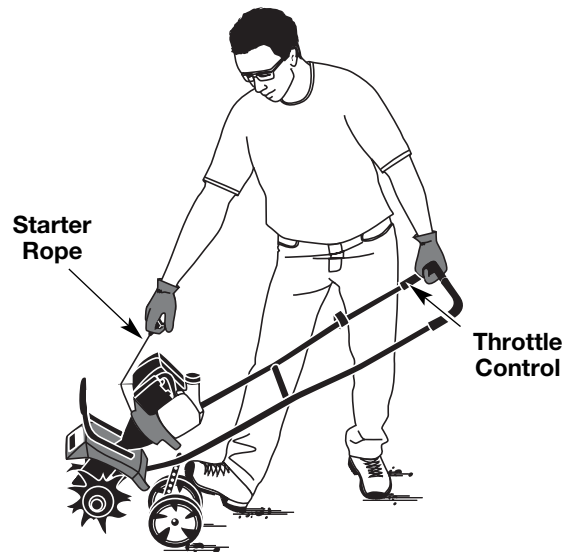

Fig. 12
WARNING: Avoid accidental starting. Make sure you are in the starting position when pulling the starter rope (Fig. 12). To avoid serious injury, the operator and unit must be in a stable position while starting.
6. Hold the throttle and handlebar with one hand and grab the starter rope with your other hand. Use your foot to hold down the cultivator (Fig. 12).